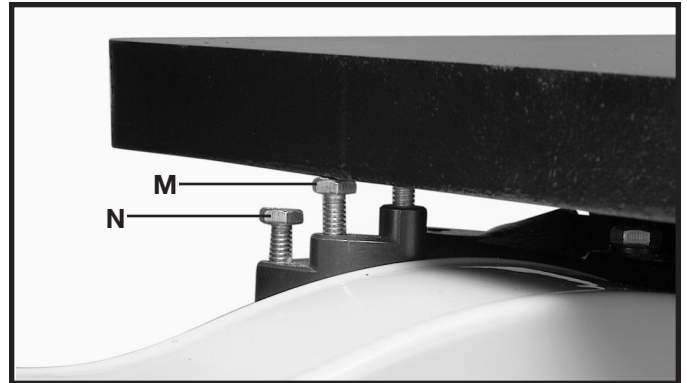

Fig. 48
2. Tilt the table to the right, and turn the stop until either stop screw (M) or (N) Fig. 48, is under the table skirt.
3. Tilt the table to the left until it rests on the selected stop screw (M) or (N) Fig. 48.